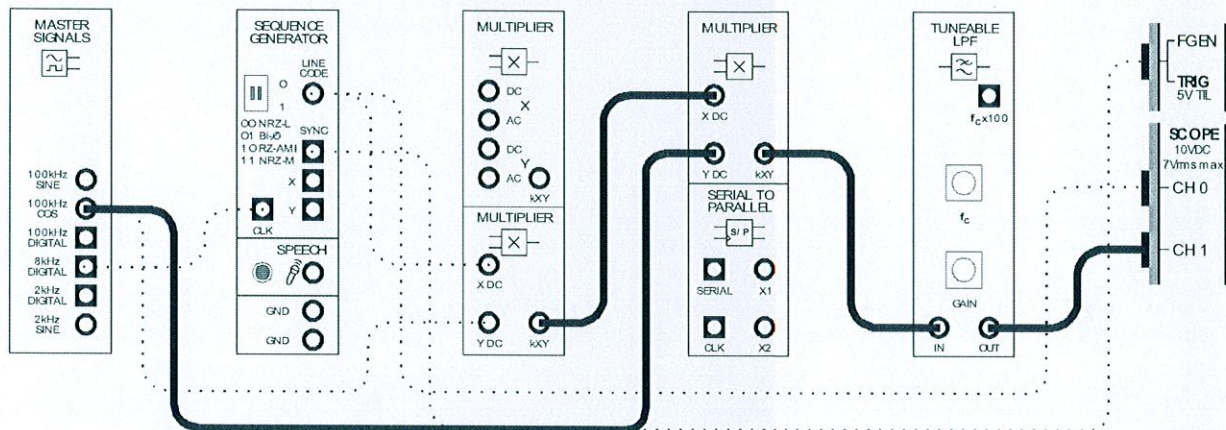

Figure 5
21. Modify the set-up as shown in Figure 5 below.